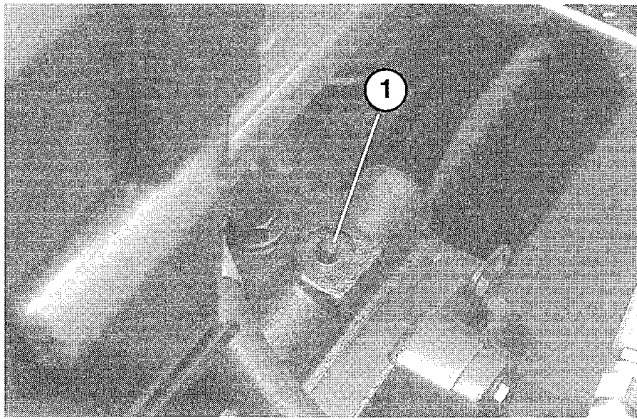

Figure 22
1. By–pass valve is located on top of variable displacement pump (Fig. 22). Rotate the valve 90°, in either direction, to open and allow oil to by–pass internally. Because fluid is by–passed, the machine can be moved – slowly – without damaging the transmission.